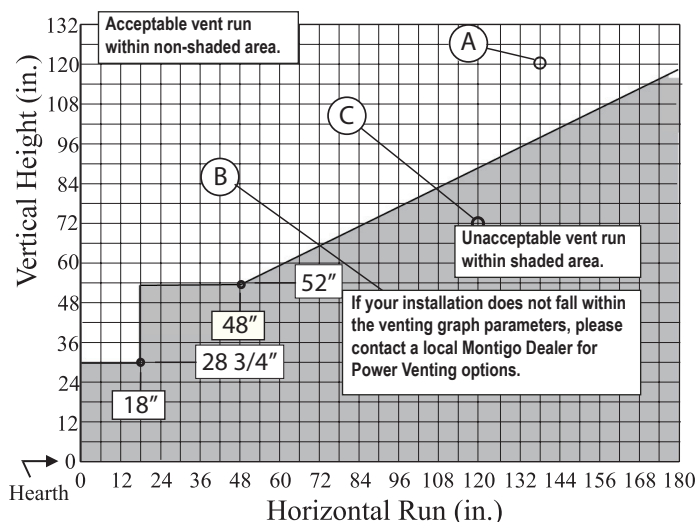

Figure 15. Rear Vent Venting Graph for wall mounted terminations.
- Venting runs *must* fall within the limits set by the venting graphs, see Figure 15.
Measure the vertical height from the fireplace hearth to the centre of the termination and the horizontal run from the fireplace flue collar to the wall flange of the termination. Plot on the Venting Graph Figure 15 with an 'X'.
Figure 16a. H\*38DF\* Rear Vented, wall mounted Multi-elbow termination installation. The vent run must comply with the Venting Graph for Rear vent, wall mounted terminations, Figure 15.